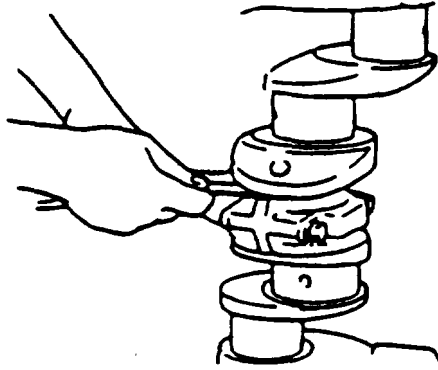

FIGURE 3-83. Connecting Rod Side Face Clearance
- (1) Install connecting rod on crankpin.
- (2) Using a feeler gage, measure clearance between connecting rod side face and crankpin web face, refer to FIGURE 3-83.
- (3) Standard clearance is 0.009 in. (0.23 mm), with a limit of 0.014 in. (0.35 mm).